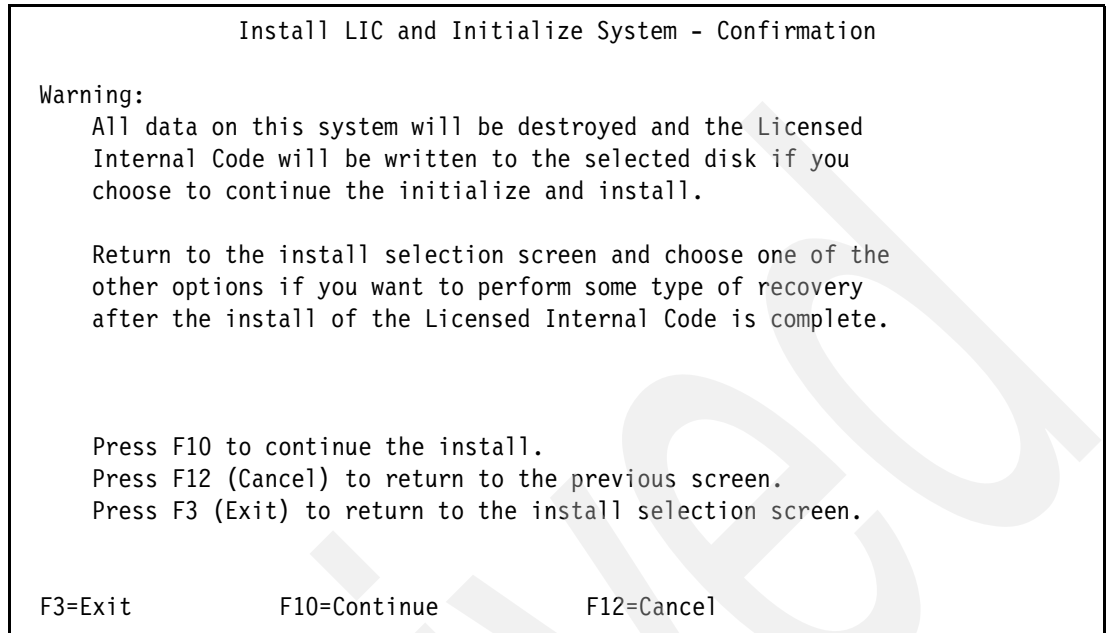

Figure 5-15 Confirmation warning
8. On the Confirmation panel, read the warning message that displays (as shown in Figure 5-15) and press F10=Continue when you are sure that you want to proceed.